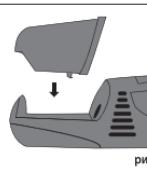

рис.2
- Switch the vacuum cleaner off with the switch (6) and remove the plug (9) from the cigarette lighter socket.
- Hold the vacuum cleaner by the handle (7).
- Press the dust bin release button (5) and remove the dust bin (4) (Fig. 2).